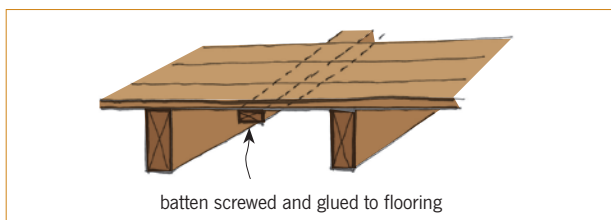

Figure 2: Adding a batten to provide mid-span fixing for strip flooring.
- installing a timber batten (construction adhesive and screw fixed) mid span between the floor joists as shown in Figure 2, or